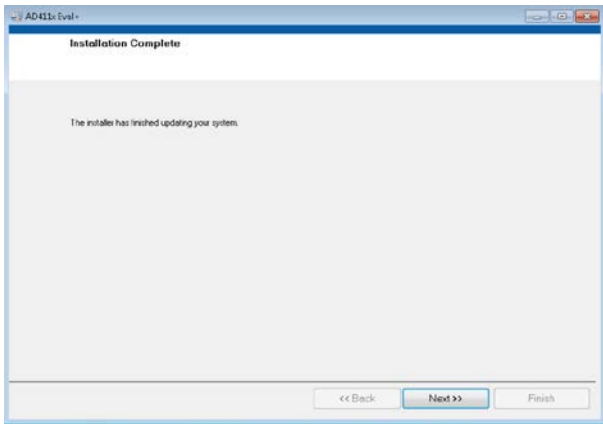

Figure 7. Indicating When the Installation is Complete
- The message in Figure 7 appears when the installation is complete. Click **Next**.